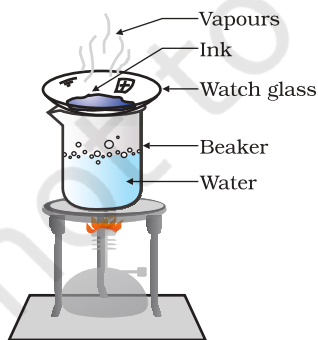

Fig. 2.5: Evaporation
- Put a watch glass on the mouth of the beaker (Fig. 2.5).